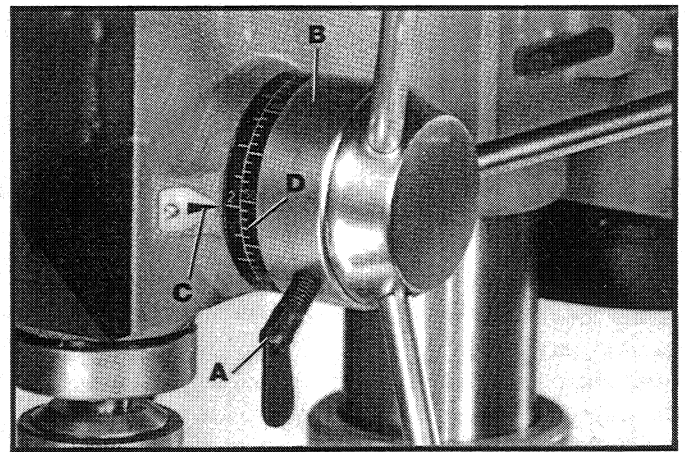

Fig. 34
1. Loosen lock screw (A) Fig. 34, and rotate housing (B) until the pointer (C) lines up with the desired depth indicated on scale (D). Then tighten lock screw (A).
2. All holes will then be drilled to the exact depth as indicated on scale (D) Fig. 34. **NOTE:** Scale (D) is calibrated in both inches and metric.